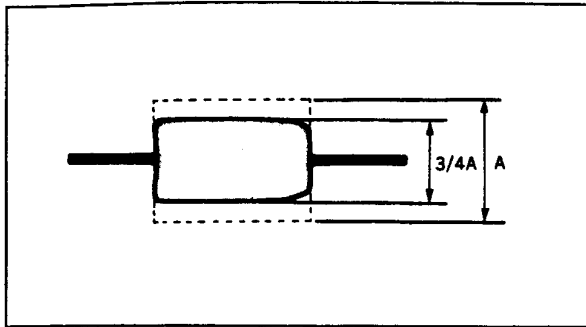

Fig. 59
- 1) Play back the tracking alignment tape. In the PATH mode, shift a track. (Fig. 59)